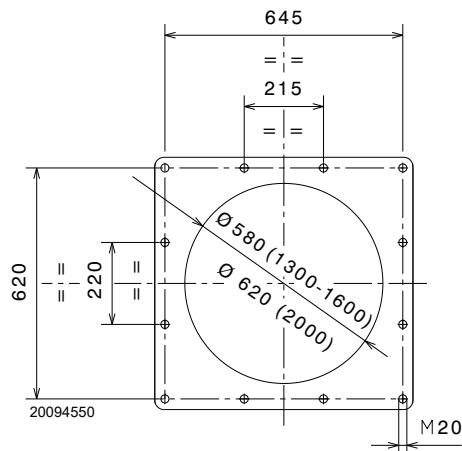

Fig. 13
Pierce the closing plate of the combustion chamber, as in Fig. 13.
- Fit the entire burner onto the boiler hole, prepared previously, as in Fig. 13, and fasten with the screws supplied (tightening torque 250 ÷ 300 Nm).